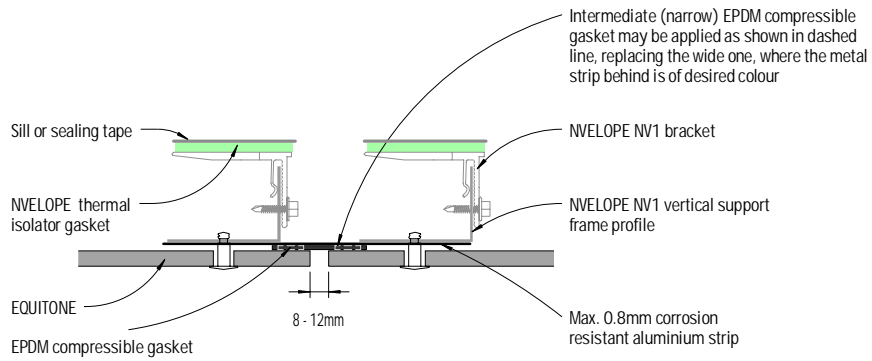

Figure 4: Vertical joint - Detail 2
- 1) In Figure 4 & 5, the aluminium strip should be fixed ONLY to one of the support frame profiles (either left or right) where allowance for horizontal and/or vertical movement of the cladding frame is required.